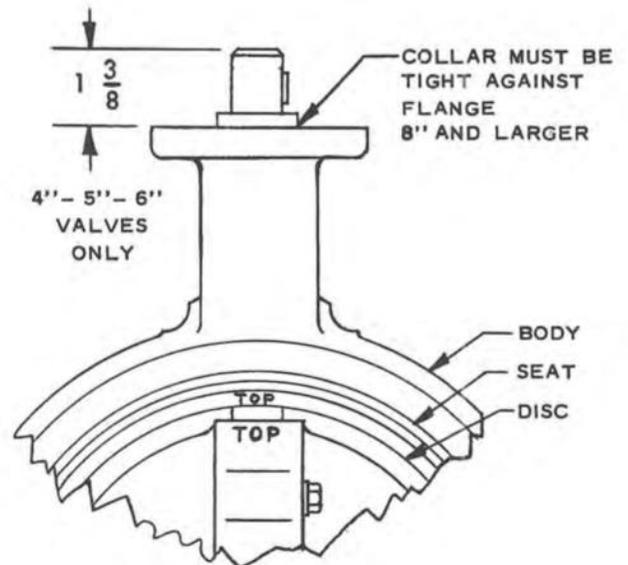

FIG. 2
3. Place the disc in the valve making sure the top of the disc is up (See FIG. 2).
4. Lightly grease the bottom chamfer of the shaft and the edges of the flat spots for the pins and **INSTALL CAREFULLY WITH A ROTARY MOTION TO PREVENT DAMAGE TO THE SEALS.** Be sure the flat spots or holes of the shaft line up with the holes for the pins in the disc. (See FIG. 2 for Shaft Location).
5. Install the pins. The pins with threaded ends must be installed with the threads to the right (See Fig.2). Tap the pins lightly to seat them before tightening the nuts with the following torque: